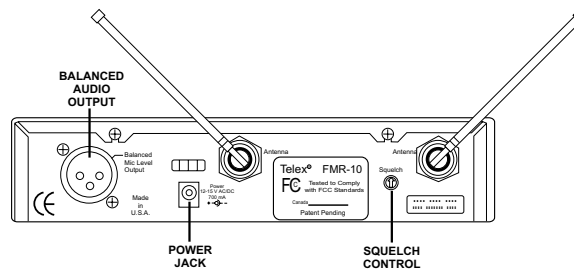

Figure 2 FMR-10 Rear View
2. Attach either the supplied 1/4-wave antennas or two remotely mounted antennas to the antenna connectors on the rear panel of the FMR-10. Be sure and tighten the connectors securely. If the supplied 1/4-wave antennas are used, they must be oriented at a 90° angle as shown in Figure 2. **Unlike other diversity wireless systems, two antennas are required for the FMR-10 to operate correctly.**